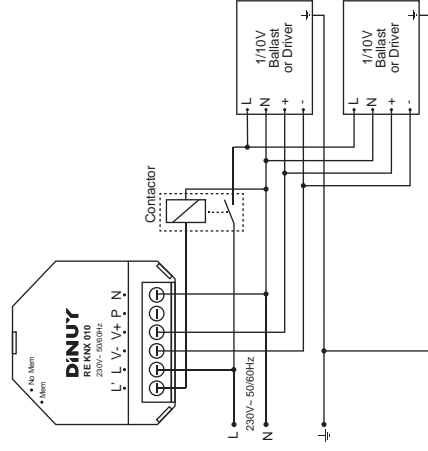

Fig. 5
- Fig. 5: Installation with contactor.